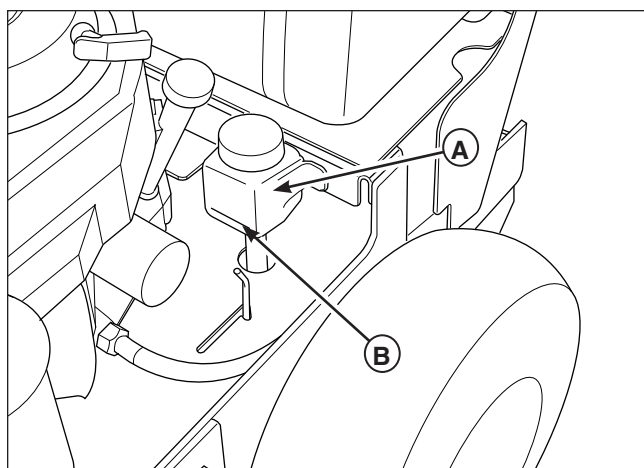

Figure 16. Transmission Oil Reservoir (LH Shown)
1. Check the oil level when the unit is cold. Locate the transmission oil reservoirs (**A, Figure 16**) located on the by the fuel tank. The oil should be up to the "FULL COLD" mark (**B**). If the oil is below this level, proceed to step 2.